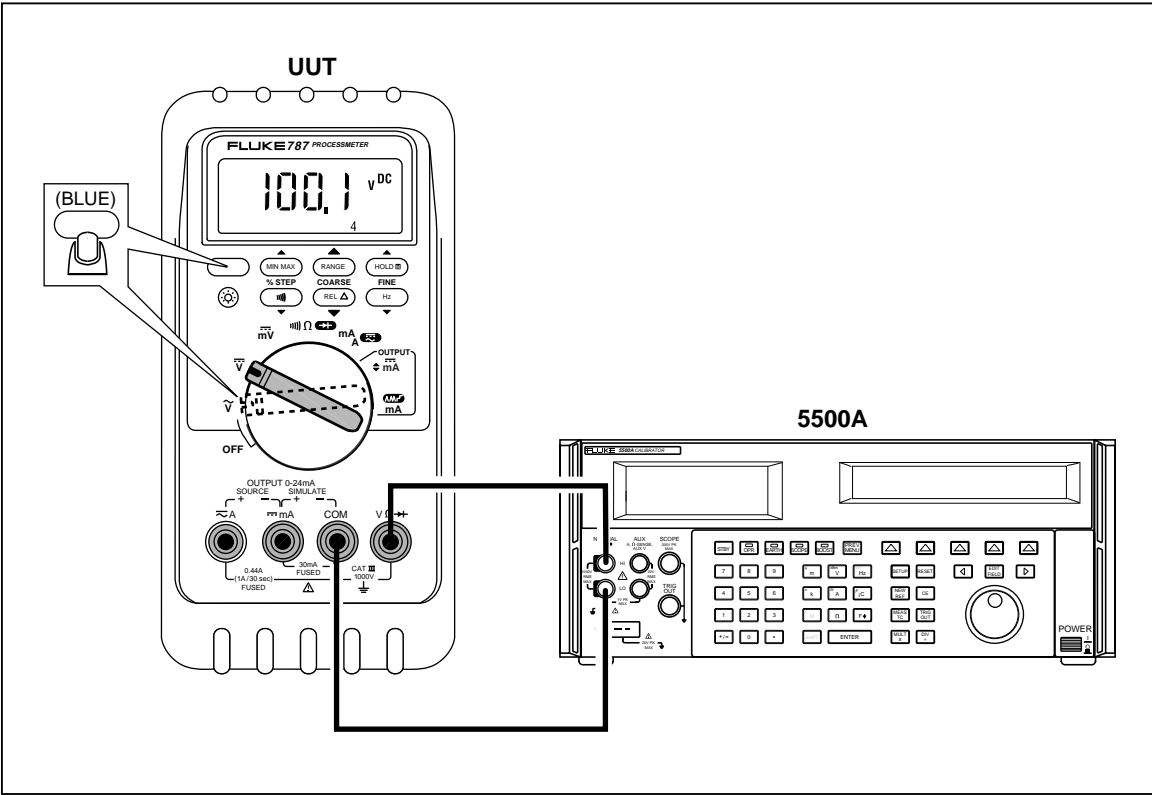

Figure 10. AC/DC Voltage Measurement Test Connections
3. Connect the calibrator to the **COM** and **V Ω →** terminals on the UUT as shown in Figure 10.